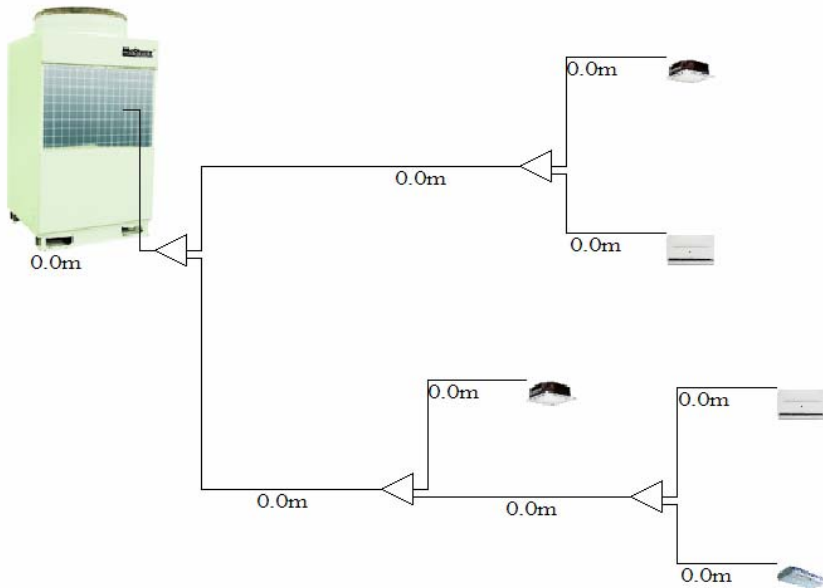

Figure 17 Insert Indoors
- The roof factor only is applicable when the unit is installed under the roof. The cooling capacity reference will multiple the "roof factor" when the unit is selected under top layer. For more information, please refer to Figure 17 in the same chapter for more information.